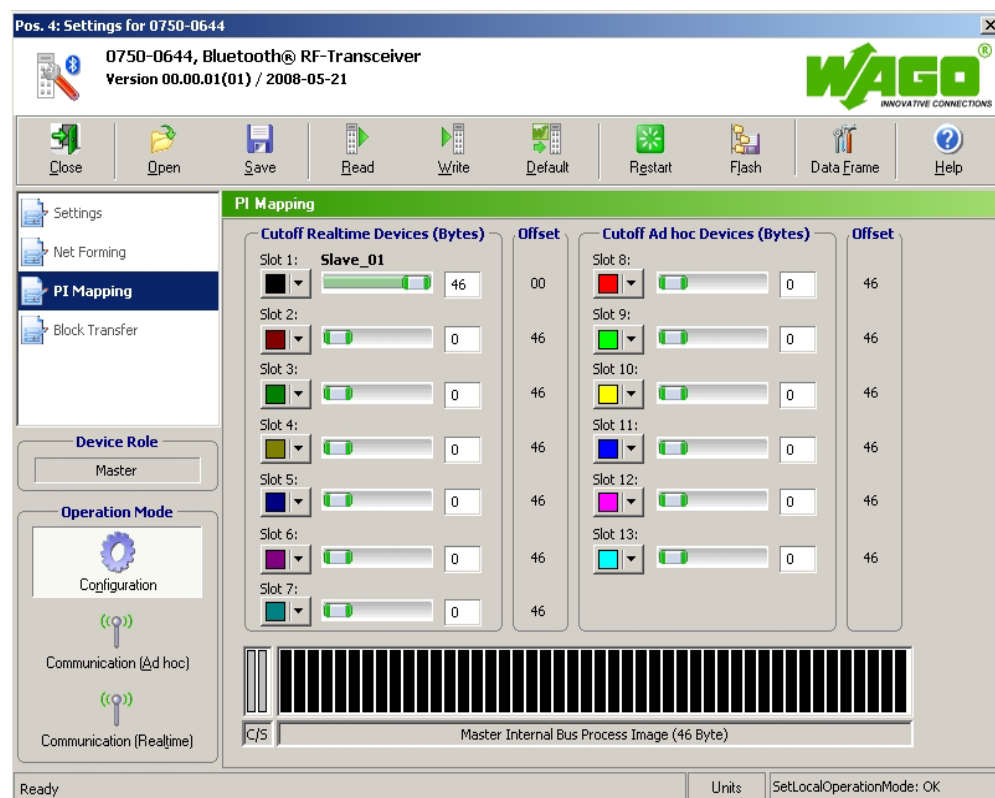

Figure 51: PI Mapping
Start with point 3 while the *Bluetooth*® parameterization dialog (siehe Figure 51) is still open.
4. Move the ruler for the first slave to the right so that the first slave is assigned the maximum possible number of bytes in the process image of the master (see Figure 51).